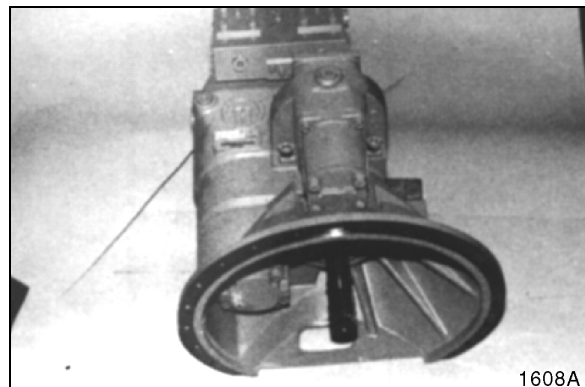

Figure 15
1. The pump assembly is shown in Figure 15.